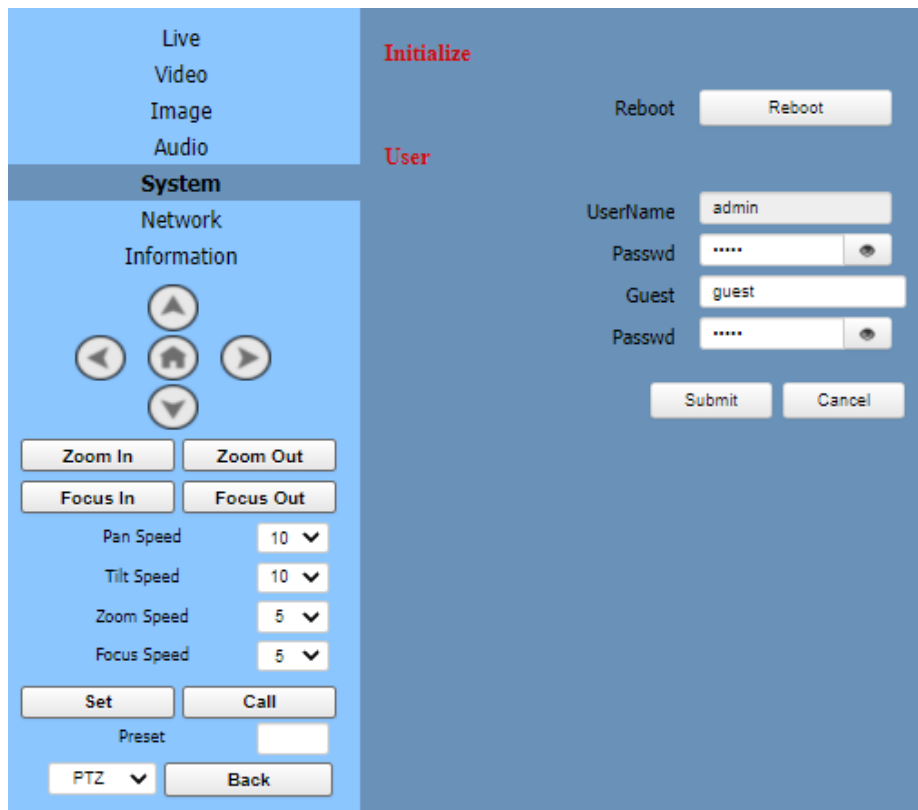

Figure 11: System Page
5. Define Port Settings (default settings are displayed in Figure 11).